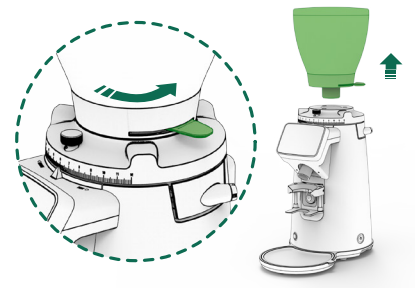

Fig. 2
**11.3.2.** For the **E10**, to properly disassemble the regulator, please follow the steps outlined in section **12.3.10.** to **12.3.12.** Use the #3 Hex Allen key supplied to loosen the screw that holds the nozzle located on top of the grinding cavity, according to **(Fig. 1)**, and remove it by pulling downwards, as shown in **(Fig. 2)**.
**12.3.2.** Check that the shutter is in the closed position before removing the hopper from the grind regulator (8) (Fig. 2).